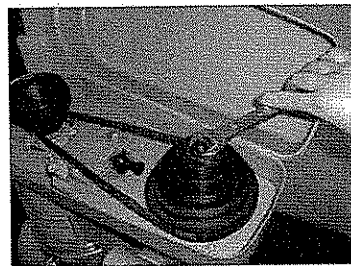

Fig. 21
- c). Pass the draw bar in the accessories through the drilling/milling spindle from the top, and tighten it into the taper shank. Then, fasten the nut of the draw bar with a wrench, as shown in Fig. 21